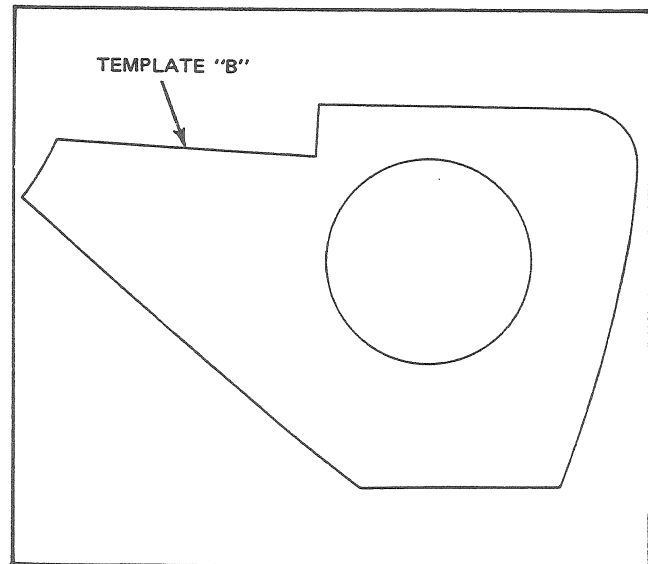

Fig. 2 – Article No. 108
8. Remove the existing gas tank filler neck attaching bolts (4) and remove the neck and gasket. Cover the filler neck hole in the gas tank to keep out dirt and foreign material.
9. Position template "B" on the inner body panel and mark the position of the hole for cutting (Fig. 2).